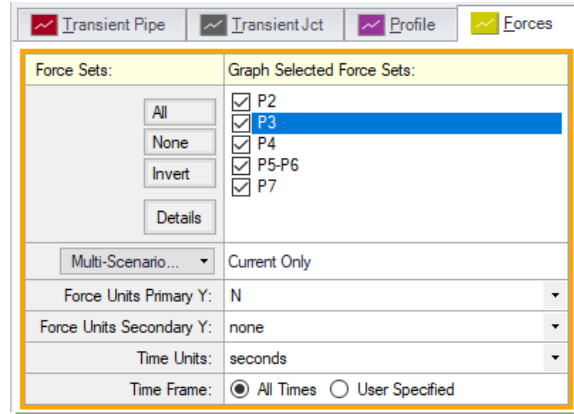

Figure 12: Graph parameters for force sets
1. Select the Forces tab on the Graph Control tab on the Quick Access Panel, as shown in Figure 12.